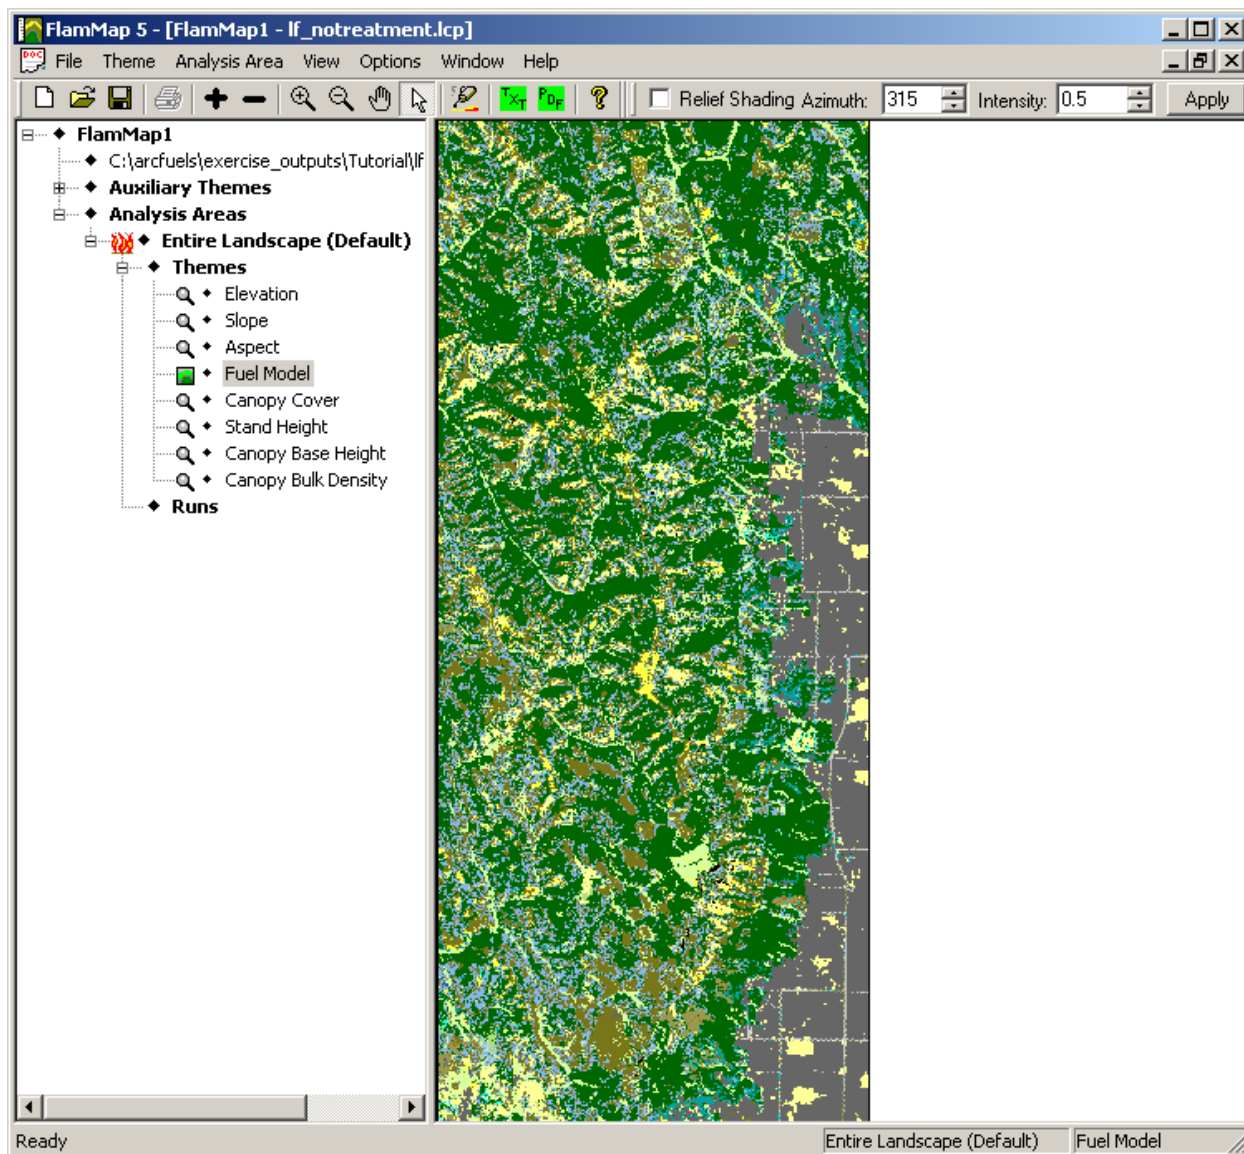
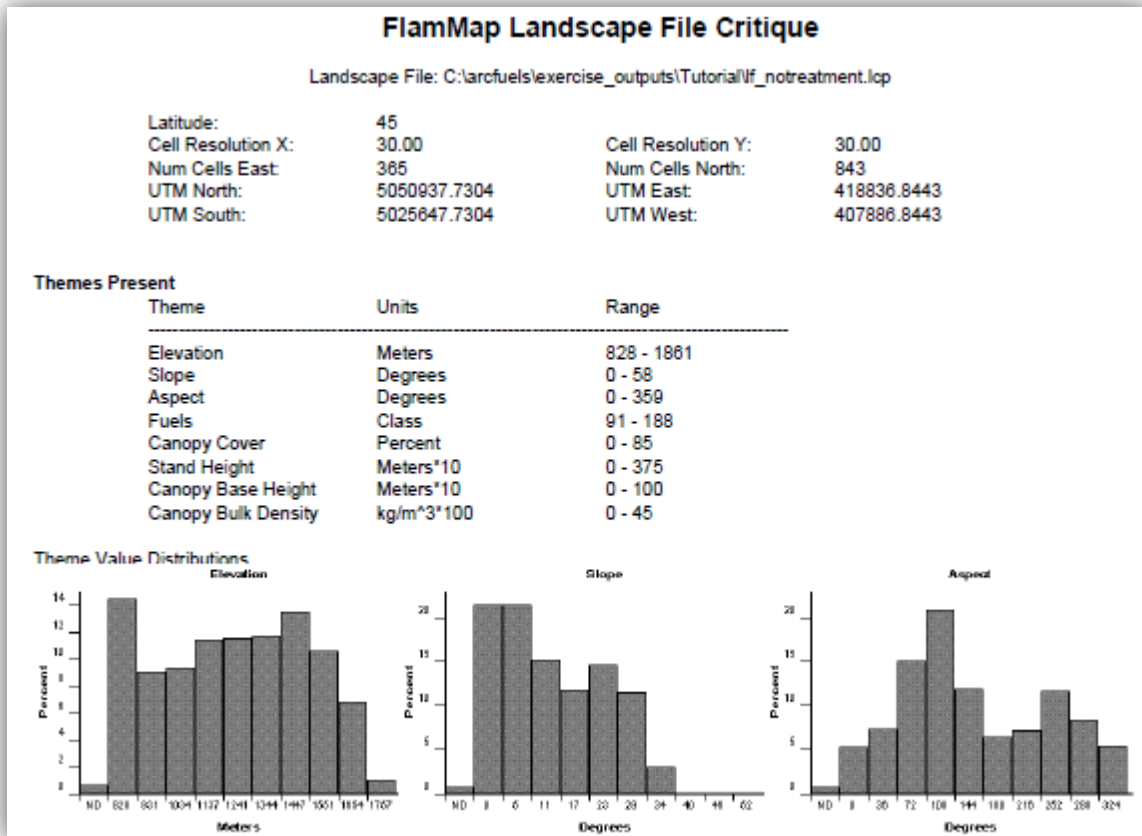

Figure 4-10—No treatment alternative LCP loaded with the fuel model theme displayed.
Figure 4-12— PDF LCP critique.
- a) Notice there are now more sections in the tree pane (fig. 4-10). The Themes section includes all the layers within the loaded LCP file. FlamMap 5 automatically expands this section and has the fuel model layer displayed. The layer shown in the display pane is the active theme selected, which is indicated by the landscape icon to the left of the name; the non-active themes have a magnifying glass to the left. To change the active theme, click on the magnifying glass or name of the theme to display.
- 3) To create a text file critique of the LCP, click the green **TXT** button on the FlamMap toolbar (fig. 4-10). The text file includes information about the extent and resolution of the LCP, the themes present with their units and ranges, a distribution of each theme, and fuel model specific distributions of the remaining themes (fig. 4-11).
- 4) To create a PDF critique of the LCP, click the green **PDF** button on the FlamMap toolbar (fig. 4-10). The PDF includes information about the extent and resolution of the LCP, the themes present with their units and ranges, histograms of the themes comprising the LCP, maps of each theme with a legend, and histograms of the remaining themes for each fuel model (fig. 4-12).